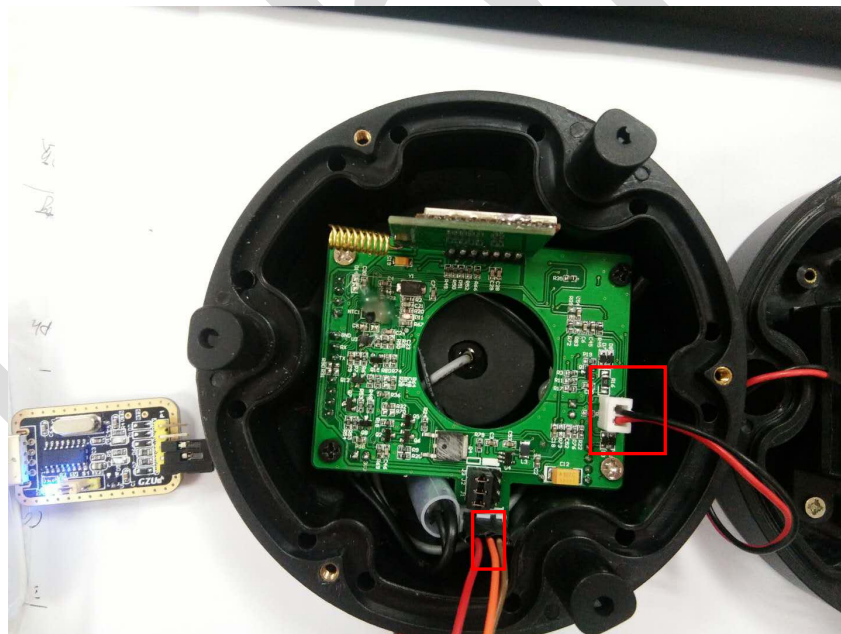

Figure5.6
- 3 Connect the device's power supply, as shown in figure5.6.